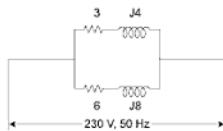

Fig. A1-26
- For the circuit shown in Fig. A1-26, find the current and power drawn from the source.